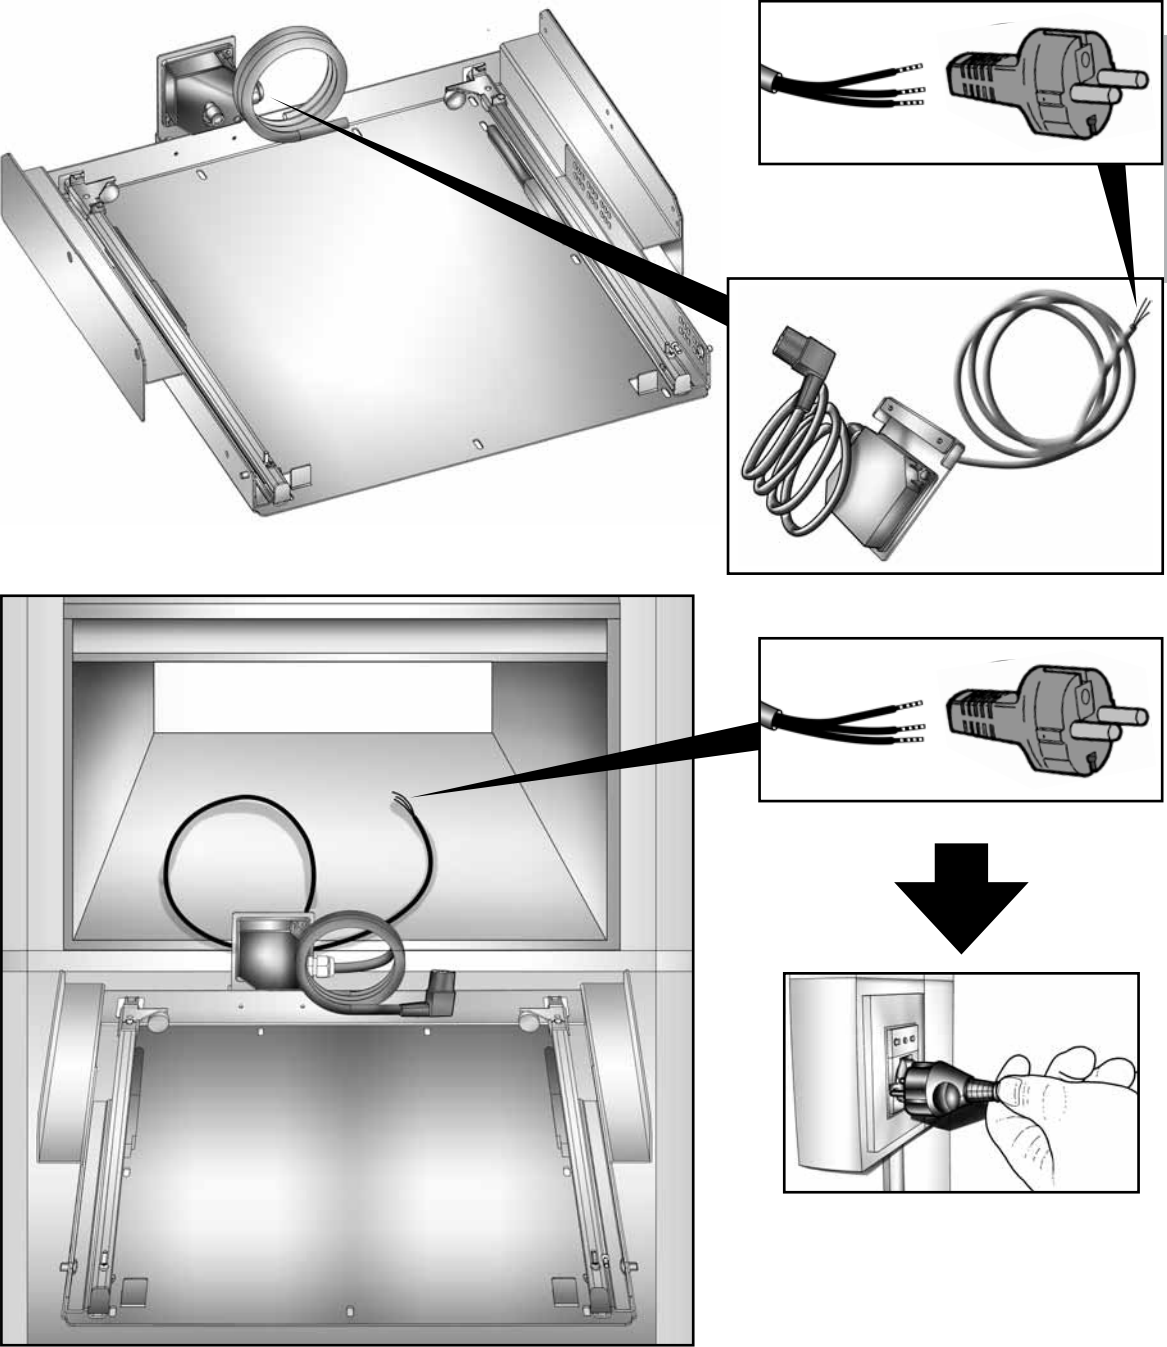

Fig. 1
- 2** Connect the power cord supplied in the built-in kit to a suitable power outlet, dedicated to power the machine (**Fig. 1**).